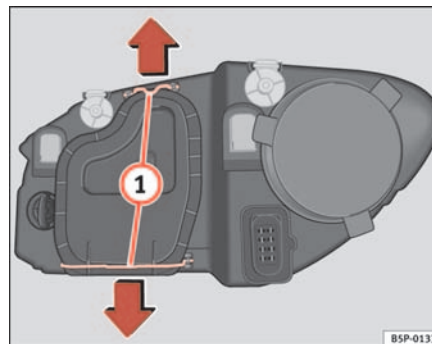

Fig. 175 Dipped head-lights
- Remove the loops ⇒ page 242, fig. 175 ① in the direction of the arrow and remove the cover.